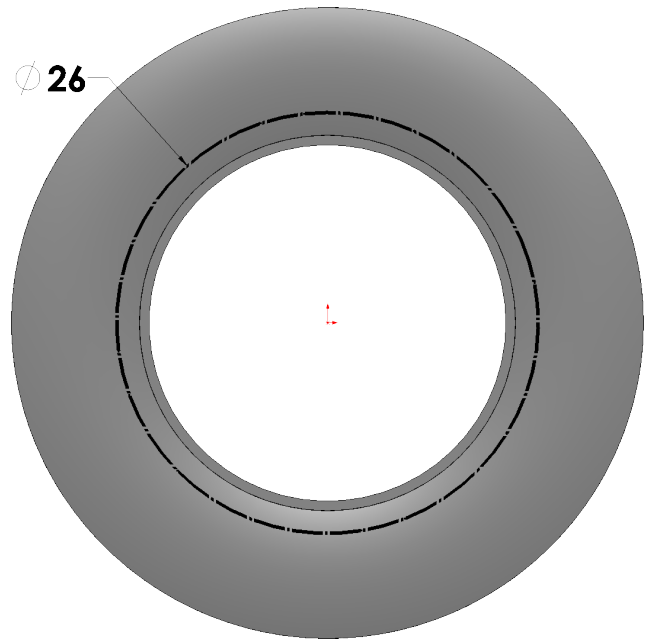

Fig. 11
Step 5. Click **Smart Dimension** (S) on the Sketch toolbar.
Step 6. Dimension **diameter 26**, Fig. 11.